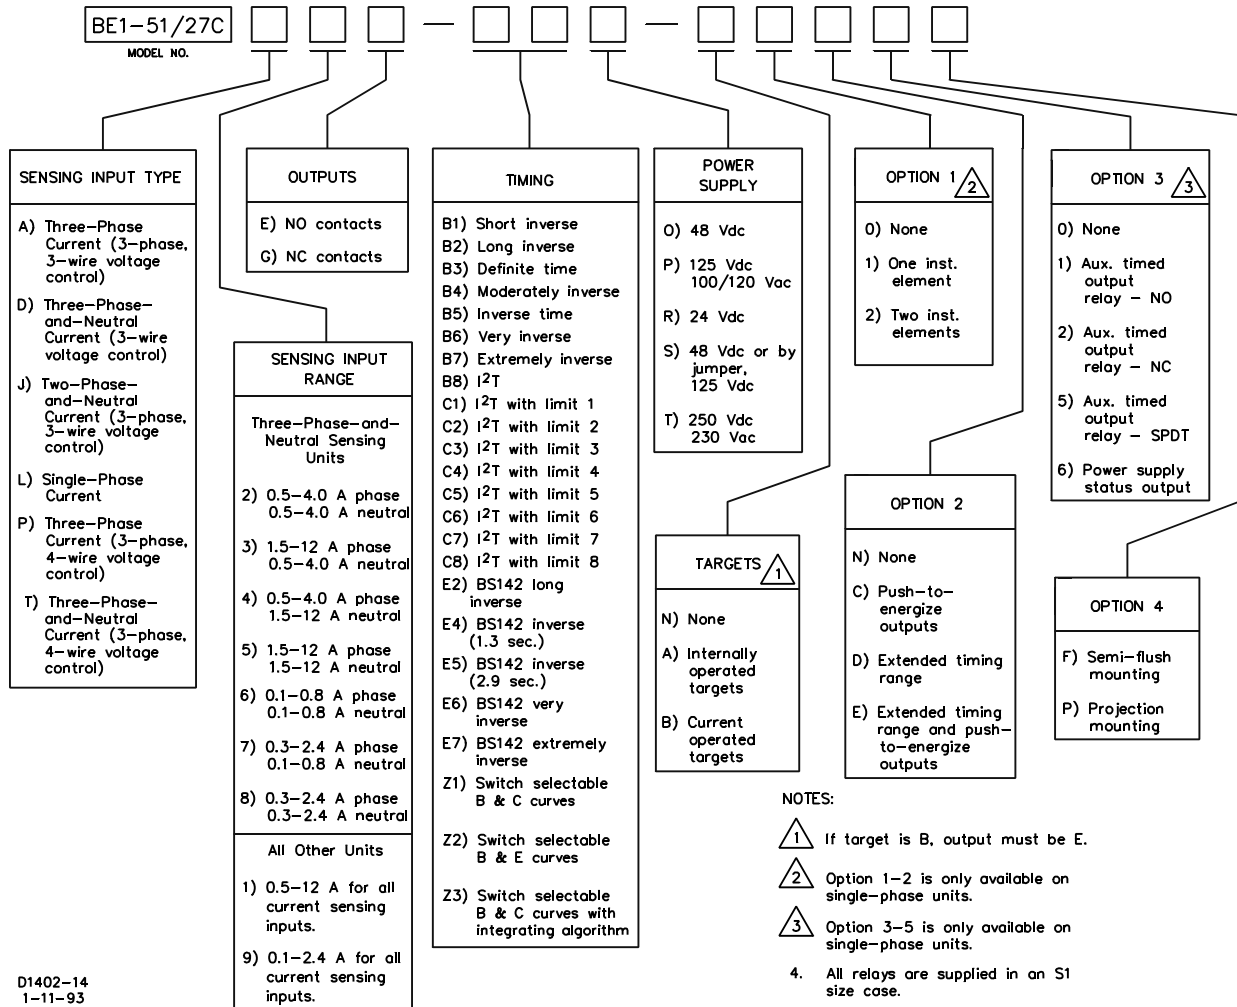

Figure 1-1. Style Number Identification Chart
Style number identification chart (Figure 1-1) defines the electrical characteristics and operational features included in BE1-51/27C relays. For example, if the style number were **T3E Z1P B1C1F**, the device would have the following:
Time Overcurrent Pickup Selection Range	Continuously adjustable over the current sensing input ranges specified in the Style Chart (Figure 1-1).
- \* The number of phases and neutral sensed by the relay is defined by the sensing input type (see the Style Identification Chart, Figure 1-1).